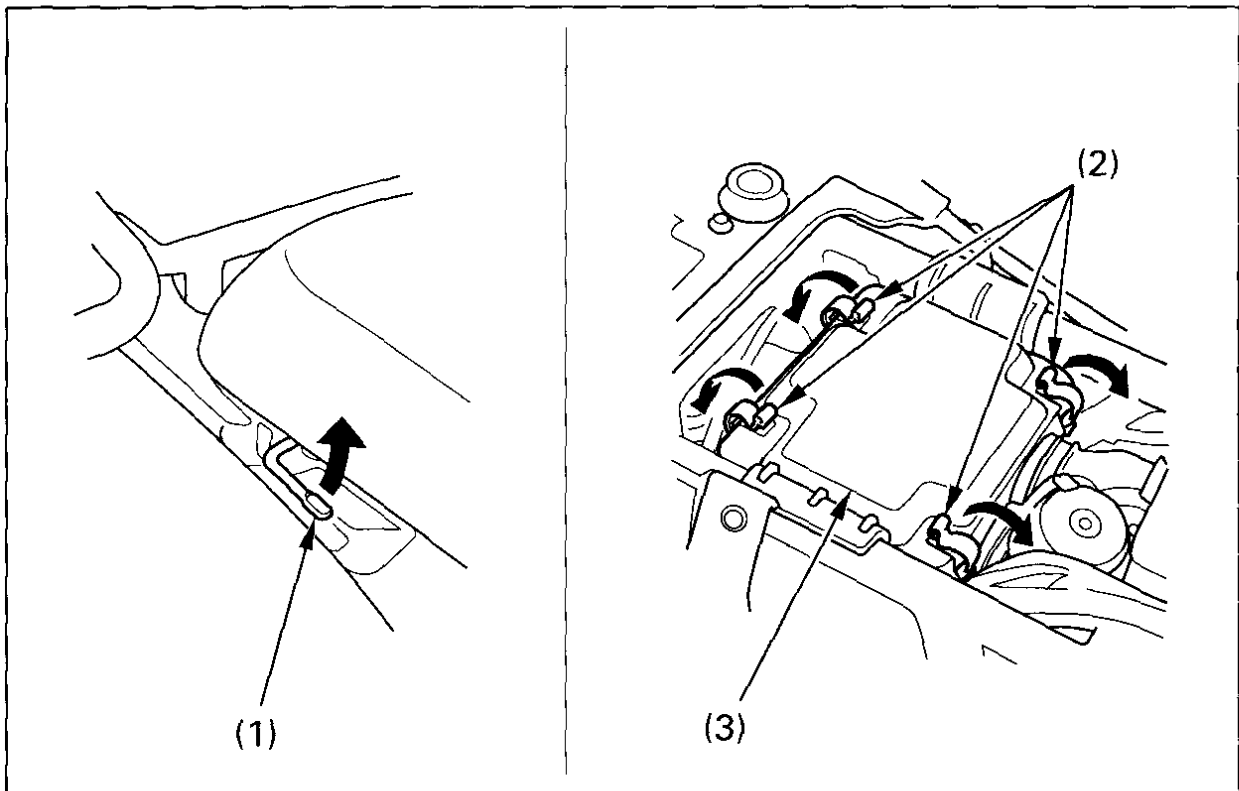

Fig. 4-4 (1) Seat lock lever
1. Remove the seat by pulling up the seat lock lever (1) (Fig. 4-4).
2. Unlatch the four retainer clips (2) and remove the air cleaner housing cover (3).